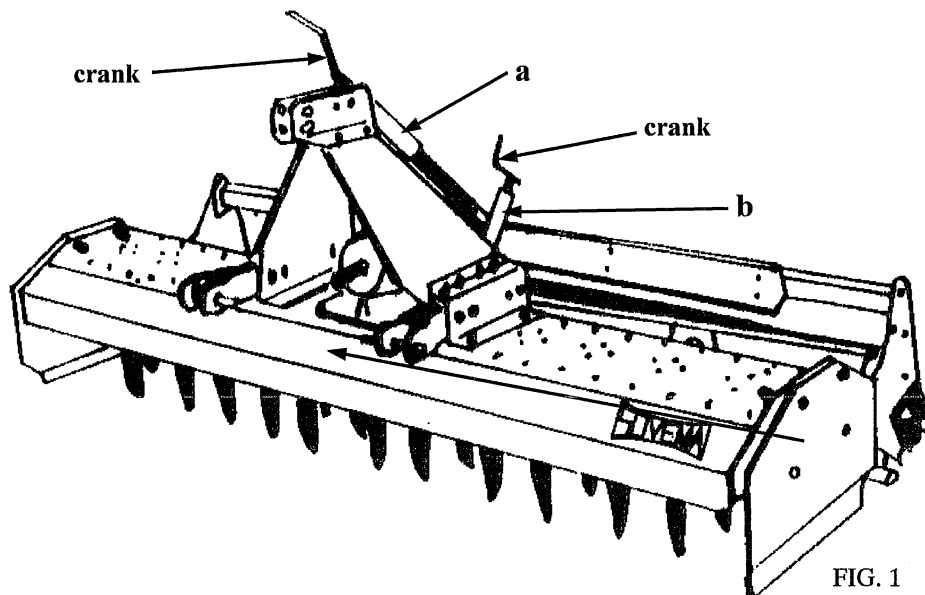

FIG. 1
To set the machine's working depth, adjust the rear roller rotating the crank of its register screw, as in figure 1:
- Unblock the screw register crank (b of fig. 1) of the level bar by taking out the stop mechanism of the crank itself;